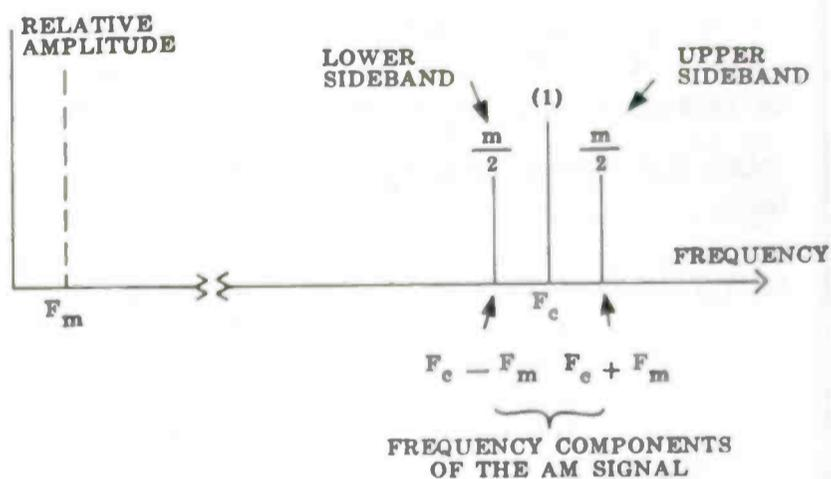

Figure 3
**10** Your answer is correct. Figure 3 shows the "frequency spectrum" for the AM signal of the previous question. Notice that amplitudes of the upper and low sidebands are related to the carrier by the factor  $\frac{m}{2}$ . For 100-percent modulation, each sideband has one-half the carrier amplitude.